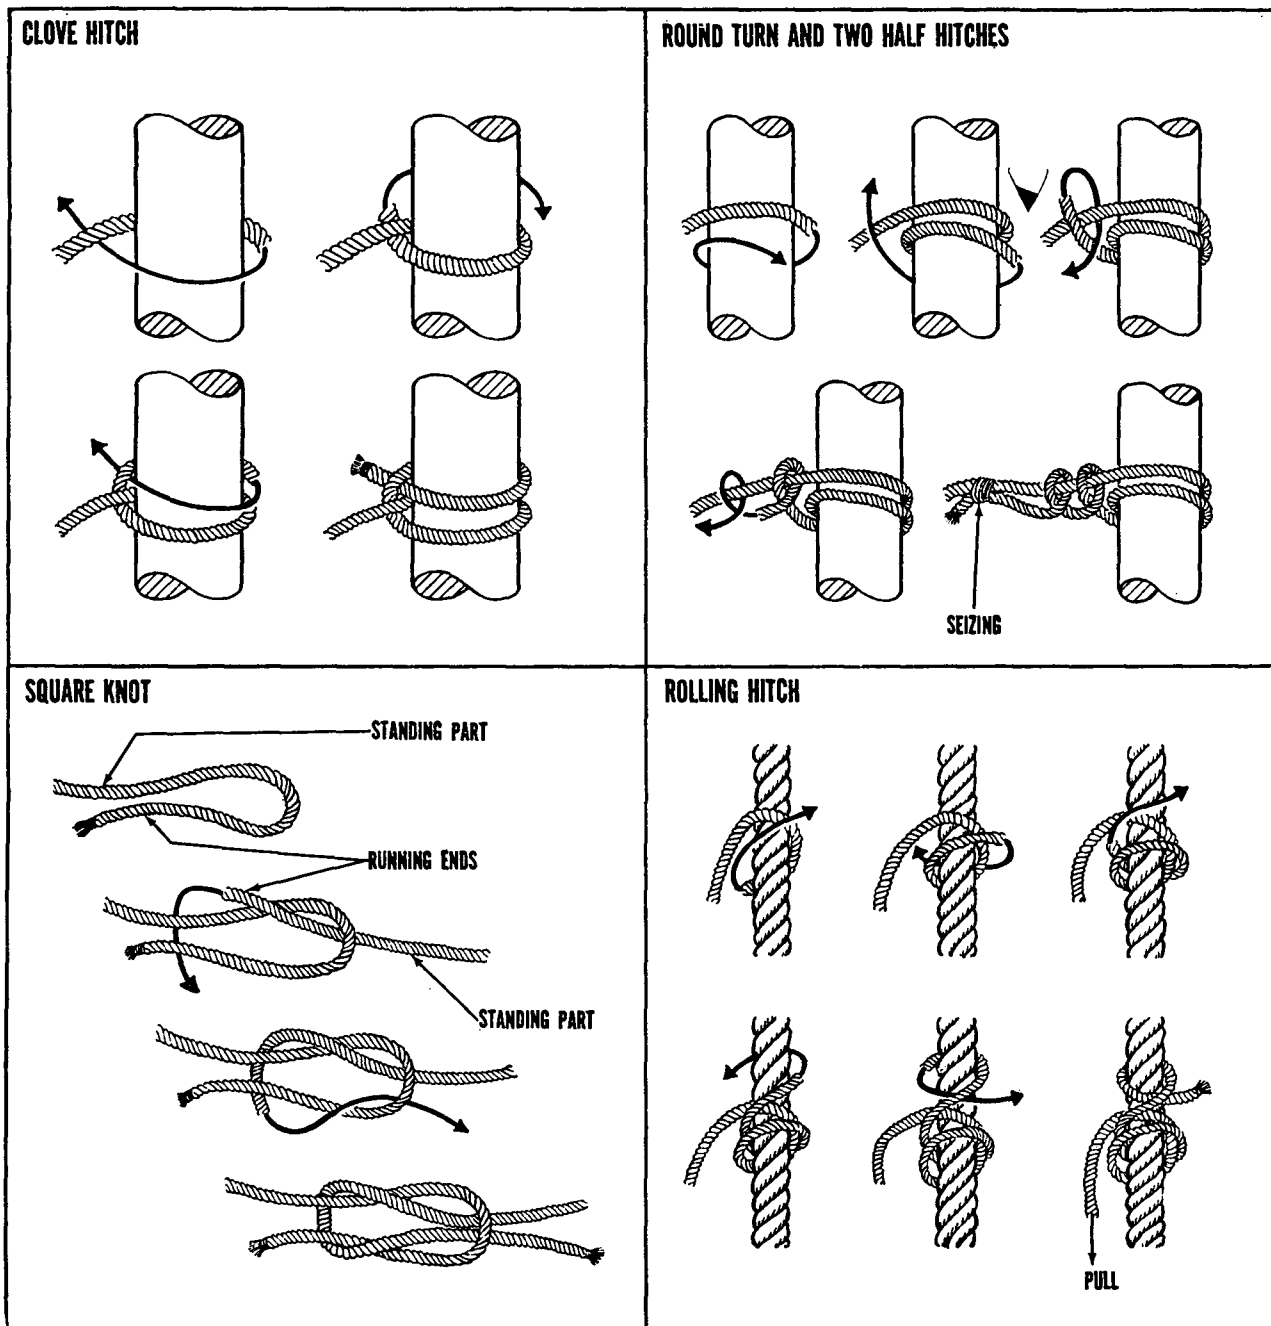

Figure 107. Knots used in tent pitching.
b. Knots. Four knots commonly used in tent pitching are the clove hitch, the round turn and two half hitches, the square knot, and the rolling hitch (fig. 107).